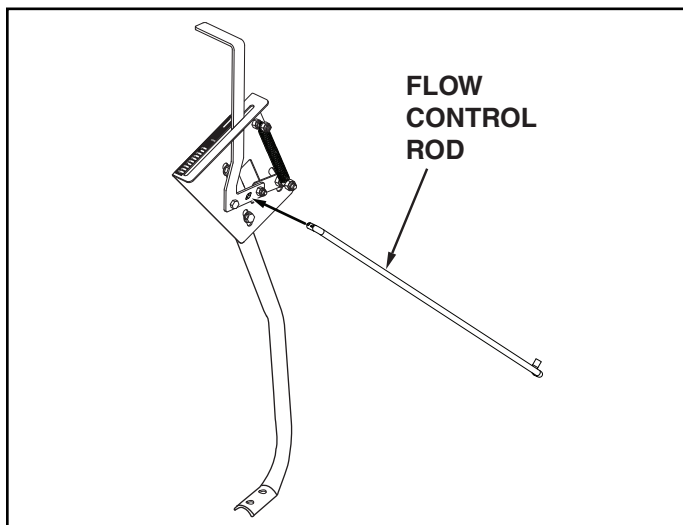

FIGURE 5
- Insert the pinched end of the flow control rod through the hole in the in the flow control arm. See figure 5.